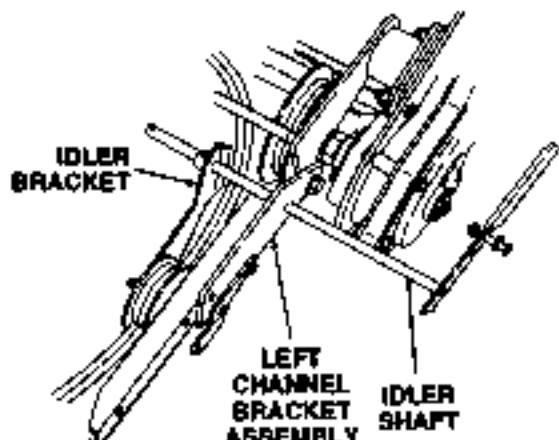

Figure 7-54. Installing Idler Shaft and Bracket.
5. Refer to Figure 7-54 and insert the idler shaft (8, Fig. 7-45) through the rearward hole of the left channel bracket assembly. Push the shaft approximately half the distance toward the right channel bracket. With the idler pulley facing toward the left, slide the idler bracket assembly (9) onto the idler shaft as shown in Figure 7-54.